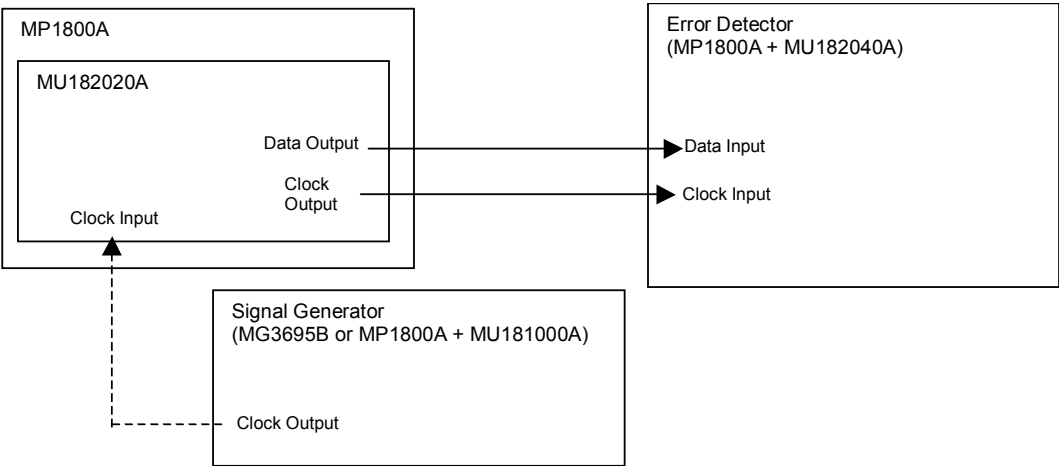

Fig. 6.3.1-1 Connection diagram for operating frequency range test
- 1. Connect each measuring instrument using cables as shown in Fig. 6.3.1-1.